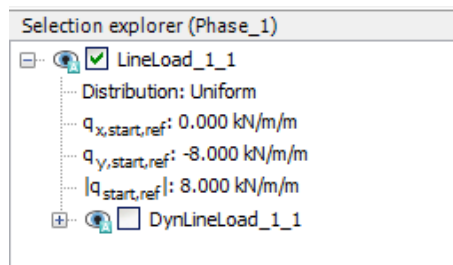

Figure 193: Specification of the static load component in the **Selection explorer**
3. Activate the static component of the distributed load. In the **Selection explorer** set $q_{y,start,ref}$ value to -8 kN/m/m. Do not activate the dynamic component of the load as shown in Figure 193 (on page 218).